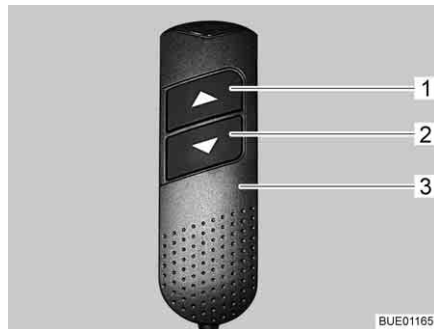

Fig. 134 Manual control unit
- On the manual control unit (Fig. 134,3) push the "▼" button (Fig. 134,2) and keep it pressed. The foot section is retracted. The head sections are raised.
- On the manual control unit (Fig. 134,3) push the "▲" button (Fig. 134,1) and keep it pressed. The foot section is extended. The head sections are lowered.
- On the manual control unit (Fig. 134,3), press the "▼" button (Fig. 134,2) or "▲" button (Fig. 134,1) until the desired position is reached.